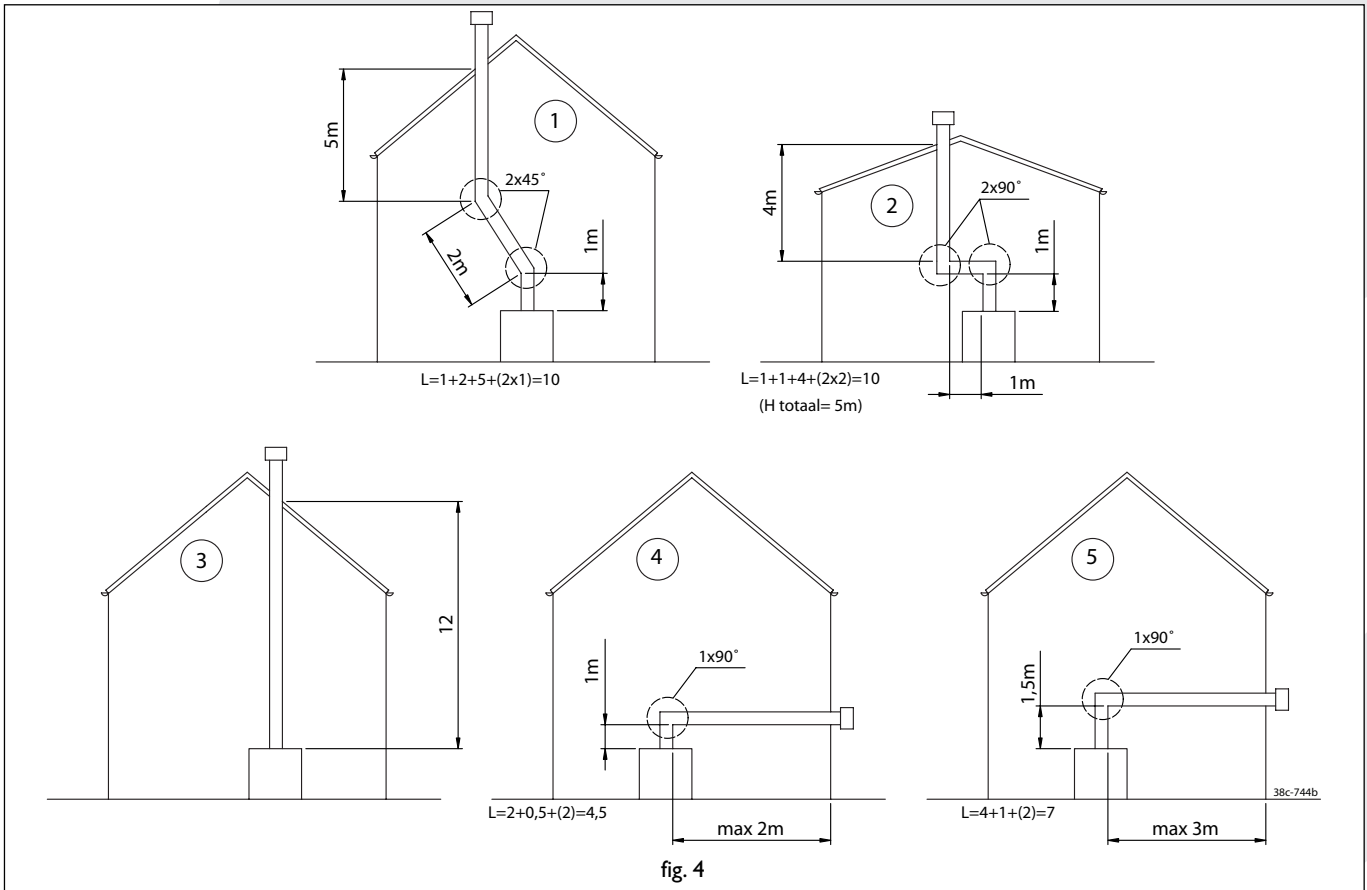

fig. 4
## Possible connections (fig. 4)
- The first metre of pipe should always be fitted vertically, except example 5 in fig. 4.
The maximum total length is the sum of the pipe lengths plus the equivalent length for the bends (see the 5 examples in fig. 4).
Fig. 4 illustrates how to calculate the total lengths of pipe.